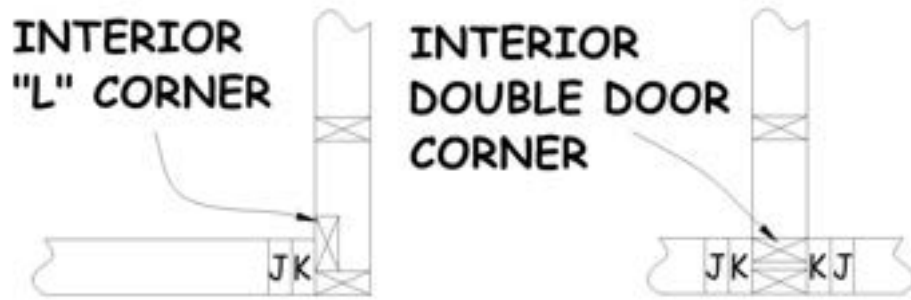

Figure 6-6. Corner Construction.
4. Where a door will be attached at the end of a bathroom or bedroom wall, mark the end of the wall for a 2x4 L-corner oriented to allow nailing through the L-corner into the King stud of the door as shown in Figure 6-6 (similar to the 2x6 L-corners used in the exterior walls). If doors are to be attached on both sides of this same wall, omit the L-stud, and orient the additional 2x4 as shown.